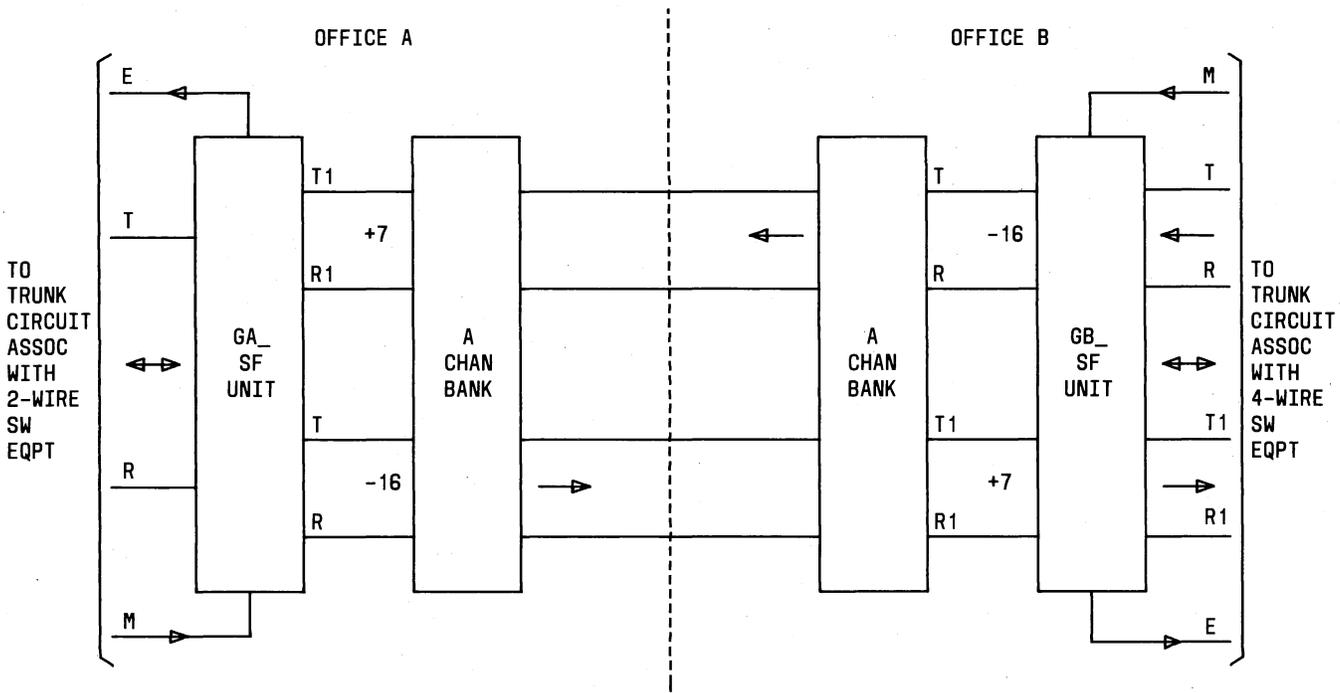

Fig. 12—Typical Application of GA_ and GB_ Units
3.01 Type G signaling units are available for a large variety of applications. Although the SF units are primarily intended to be used on analog carrier facilities, SF units may also be used on 4-wire metallic facilities and digital carrier channels. Signaling units are available for most all applications requiring conversion from loop signaling, E and M lead signaling, DX signaling, or 20-Hz ringing to 2600-Hz tone (SF) signaling. Figures 12 through 17 illustrate typical applications of Type G units. Signaling conversion is also a function of the system, eg, a 4-wire E and M unit may be used on one end of a circuit and a 2-wire DX unit used on the other end.
5.02 A GBA SF unit is described in this part of the section, since the operating principles of this unit are representative of most Type G units. Figure 12 shows a typical circuit arrangement—a 4-wire transmission facility terminating into a 2-wire switching office on one end and 4-wire switching office on the other end.